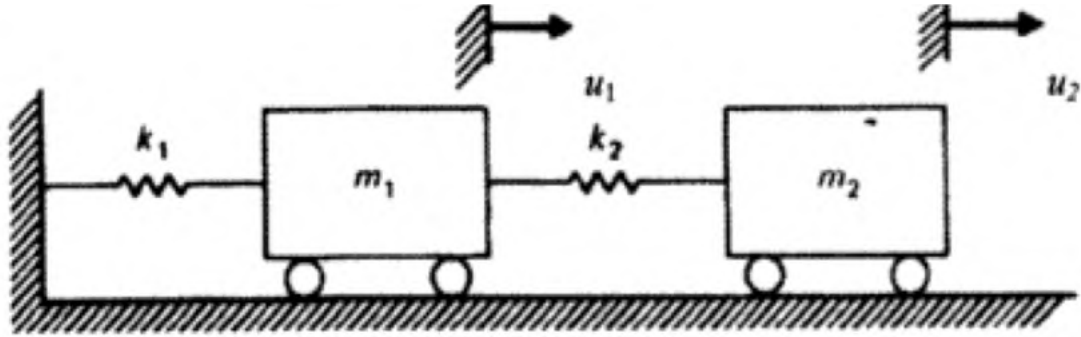

Fig.4.
- b) A single bay single storey portal frame with the following properties is subjected to a ground acceleration history that can be idealized as $0.5 \sin(15t)$. find the peak steady state amplitude of floor vibration and column shear if the floor mass is 4540 kg and 2013 kN/m. (10)
6. a) Write short notes on the following (i) Pseudo acceleration (ii) DVA spectrum (4)
- b) Setup the equations of motion for the 2 DOF system shown in Fig.4. and hence estimate its natural frequencies. Following data may be utilized. $m_1 = m_2 = M$; and $k_1 = k_2 = K$. (10)